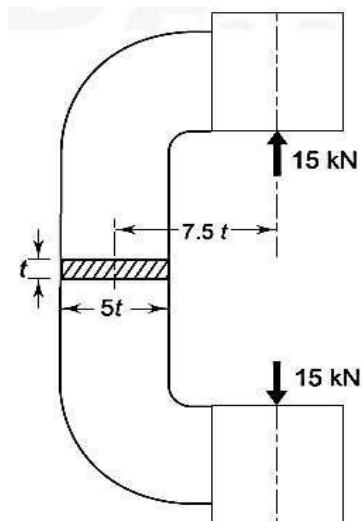

Figure.5.2
3. A C-frame subjected to a force of 15 kN is shown in Fig.5.2 it is made of grey cast iron FG300 and the factor of safety is 2.5. Determine the dimensions of the cross-section of the frame.
Geometry from Fig.5.2 used: bending moment about the section due to one 15 kN force: lever = $7.5t$.